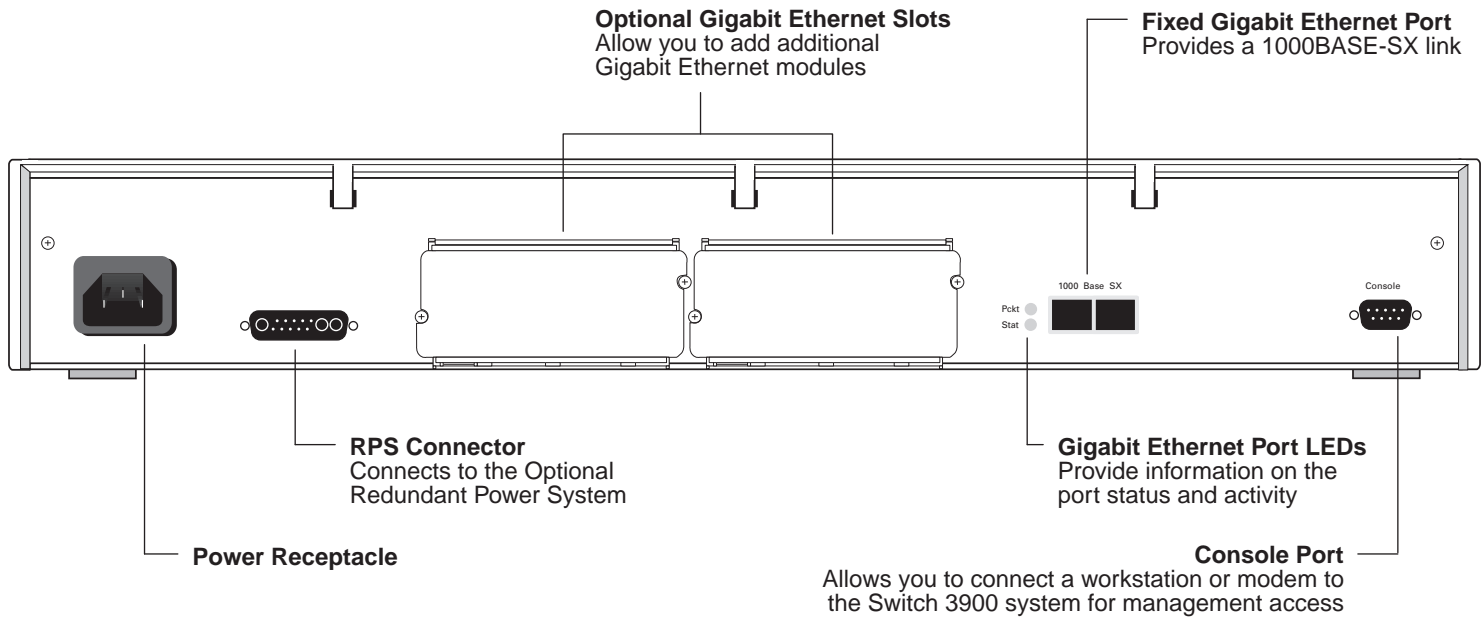

Figure 1-3 Back Panel of the 24-Port and 36-Port SuperStack II Switch 3900
- Expansion slots on the back panel (see Figure 1-3) that can hold one or two of these optional Gigabit Ethernet modules: